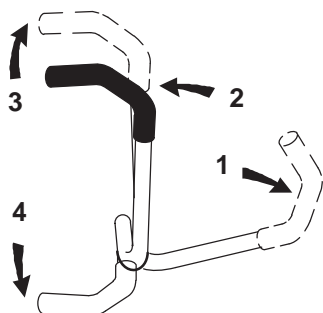

Figure 19
3. To go forward, slowly push the motion control levers forward (Fig. 19).
To go straight, apply equal pressure to both motion control levers (Fig. 19).
To turn, release pressure on the motion control lever toward the direction you want to turn (Fig. 19).
2. To go backward, slowly pull the motion control levers rearward (Fig. 19).